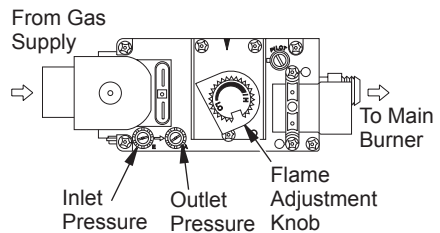

Figure 44 - Electronic Control Valve
The electronic system applies to the (V)DVF36TPNEA/TSTEA and (V)DVF36TPNPEA/TSTPEA models (see Figure 44).